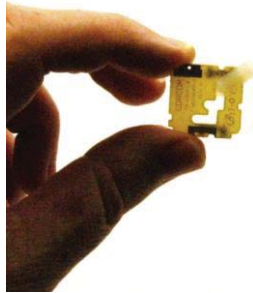
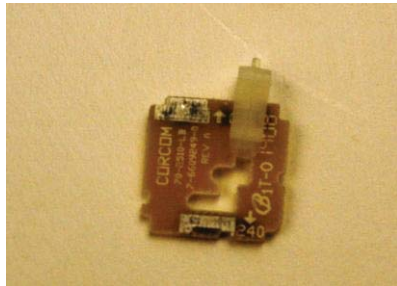

Figure 7
Figure 8
Step 3: Rotate the clear plastic guide, as shown in Figure 7, until the guide points down to the 240V label, as shown in Figure 8